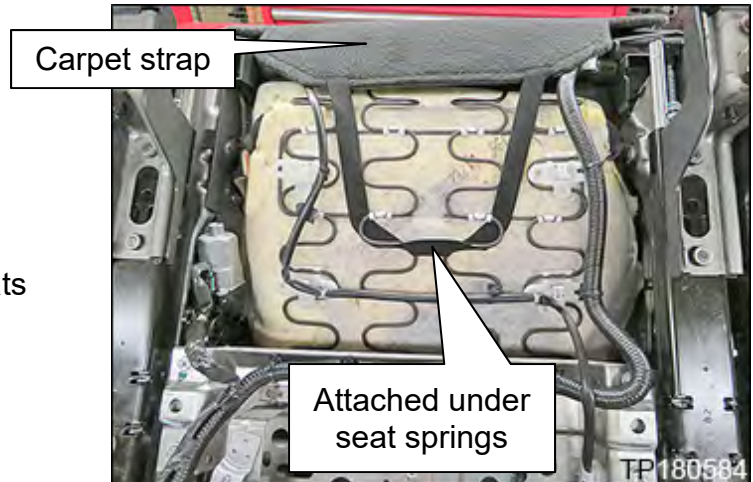

Figure 10
- Figure 10 shows carpet strap attachment style used on all seats without climate control.